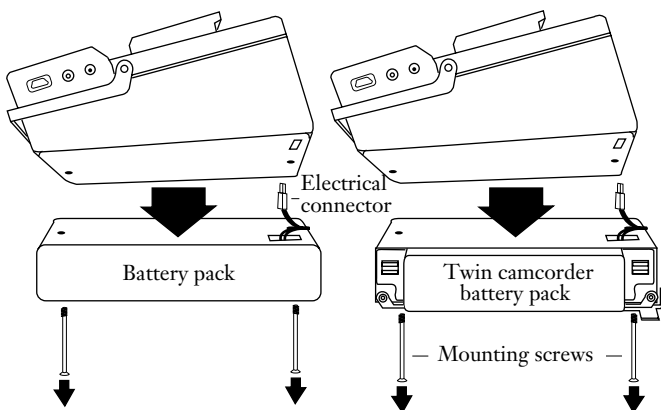

Figure 14
- b) Unplug the connector between the splicer and the battery pack (Figure 14).